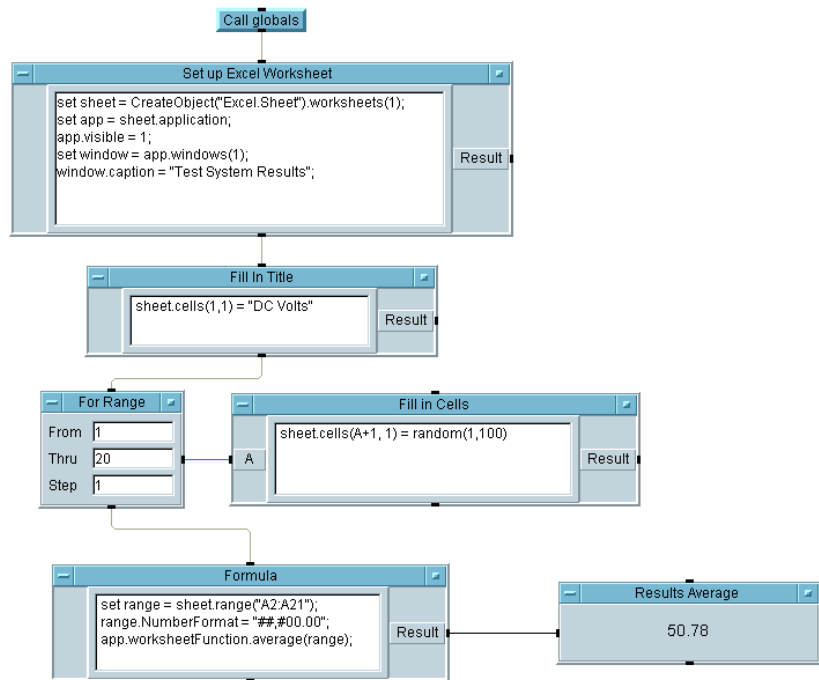

Figure 6-8. The Results Average Program
10. Create a Formula object and an AlphaNumeric object, rename, configure, and connect them as shown in Figure 6-8.